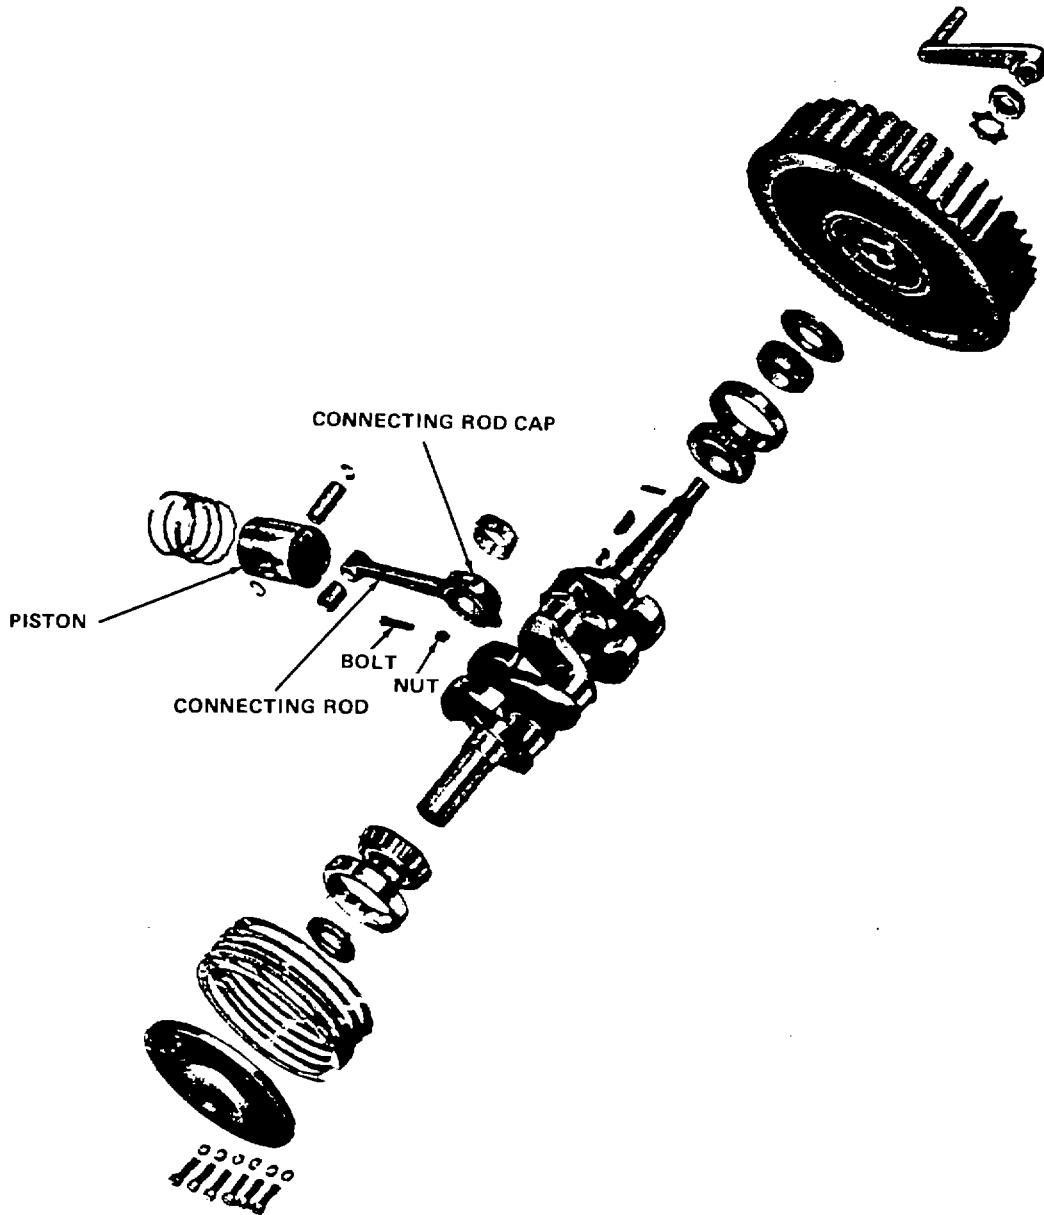

Figure 6-18. Pistons and Connecting Rods
n. Pistons and Connecting Rods. (Figure 6-18)
- (1) Remove 5/16-24" hex lock nuts from connecting rod bolts.
- (2) Using a soft mallet, tap four connecting rod bolts to loosen. Remove connecting rod bolts.
- (3) Lift four connecting rod caps off of four connecting rods.
- (4) Using a wooden rod placed against the underside of the connecting rod, drive the piston and connecting rod assembly out of the cylinder.